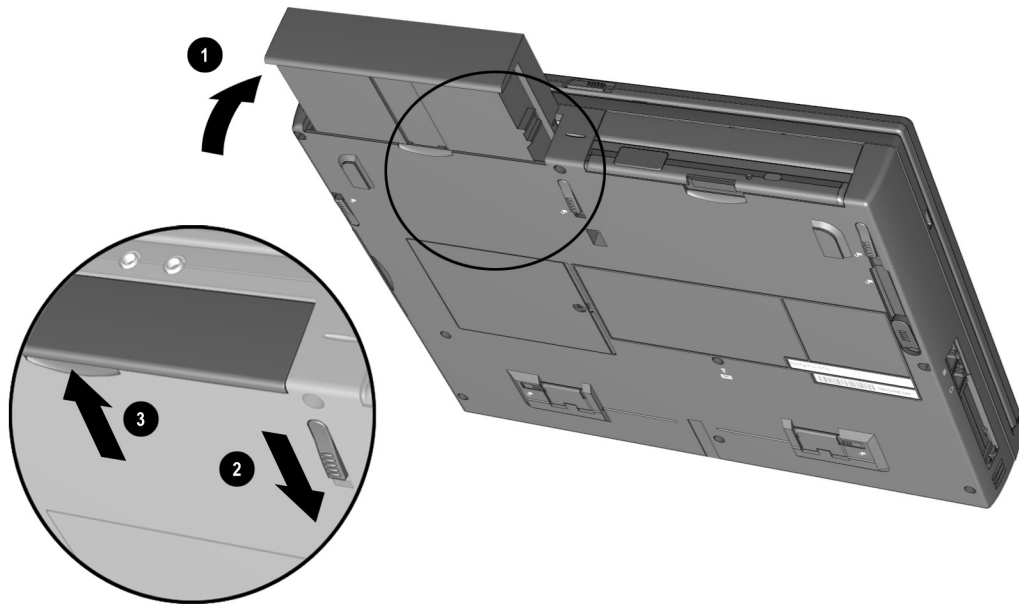

Figure 5-7. Removing a Battery Pack from the Battery Bay
2. Tilt the computer at an angle **1** so the bottom of the computer is accessible (Figure 5-7).